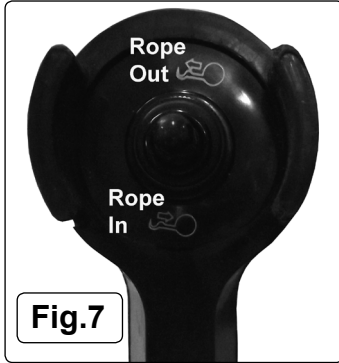
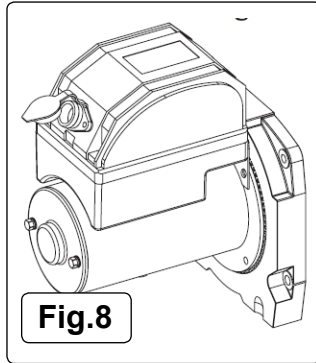

Fig.7
Fig.8
3.3.4 Reconnect the battery, positive terminal first, then the negative. Rotate the clutch lever to the "disengaged position". Pull several metres of cable off the drum. Return the clutch lever back to the "engaged position". Plug in the remote switch assembly, refer to fig.8. Switch the hand control to "rope out" position. Pull the trigger momentarily to check cable drum rotation direction. If the drum rotates in the wrong direction, recheck the wiring.
4.1 The hand held switch activates power to the winch motor. To connect the remote control remove the waterproof plug cover and insert the control cable plug and turn the securing ring clockwise to lock see fig.8. The plug on the control cord is keyed and will only fit the socket one way. The switch trigger returns to the "Off" position when released. To change direction, press the rocker in the other direction, see fig.7.